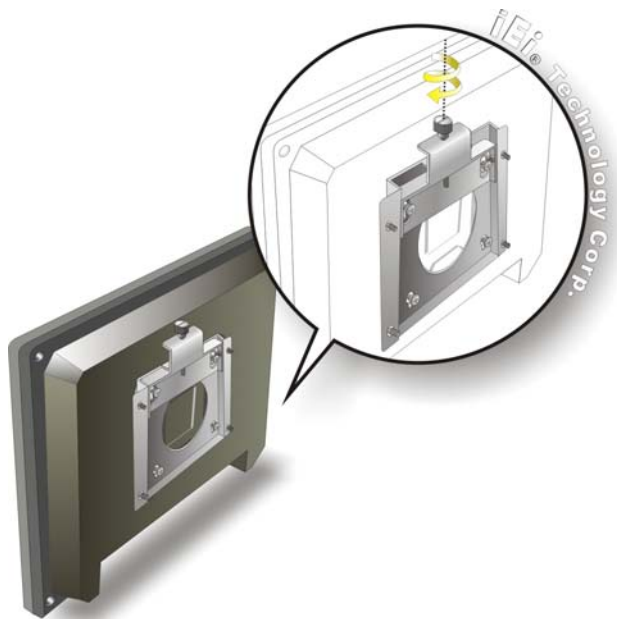

Figure 4-5: Secure the Panel PC
Step 9: Secure the panel PC by fastening the retention screw of the wall-mounting bracket. (Figure 4-5).